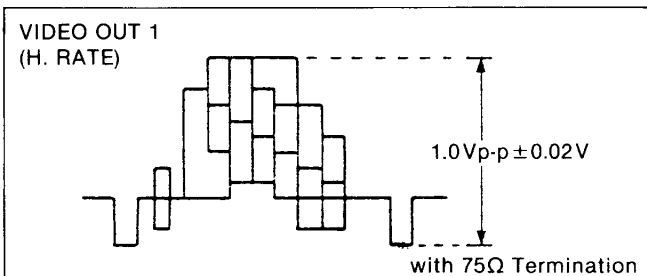

Figure E21
4. Adjust VR8010 for 1.0 +/-0.02Vp-p as shown in Figure E21.